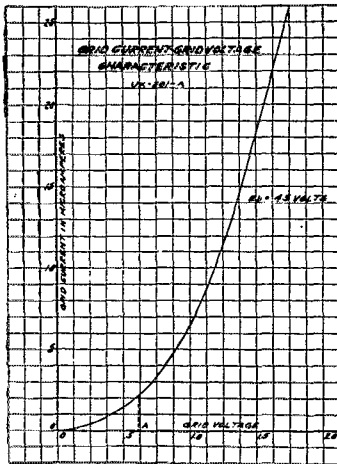
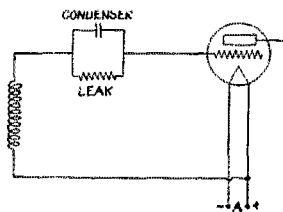

FIG. 1
FIG. 2
It is a well-known fact that if a curve of grid current for various grid voltages is taken for a common high-vacuum tube, such as the UX-201-A, a curve of the form shown in Fig. 1 is produced. It is this curved characteristic of the tube that makes the usual method of detection possible. Let us see how this characteristic is used. To do this it will be found convenient to forget about the plate and the plate circuit for the time being. For the purpose of explanation, let us take the grid characteristic curve of the UX-201-A as shown in Fig. 1 and also the circuit which is used with this tube for detection with the grid leak and condenser (Fig. 2). Under these conditions the grid will assume a potential which (referred to the "—" end of the filament) will be less than the five volts on the filament by an amount equal to the voltage drop through the grid leak. The current flowing to the
grid will be some value  $g_i$ . The resistance of the leak should be such that the grid potential corresponds to a point on the grid characteristic where the curvature is the greatest, such as the point (A) Fig. 1. When an unmodulated radio frequency wave is impressed on the grid under these conditions, there will be an increase in the direct current flowing to the grid. The reason for this, is that when the grid potential swings more positive on one half of the cycle there is an increase in grid current and when the grid swings more negative than the point a, on the next half of the cycle there will be a decrease in the grid current. On account of the curvature of the characteristic, the increase is greater than the decrease, and the result is an increase in the average current flowing to the grid. This increase in grid current would not of itself cause any change in the plate current of the tube, but since the increase in grid current must flow through the grid leak, the voltage drop across the grid leak is increased and therefore the potential of the grid with reference to the filament is decreased. This decrease in the grid potential causes a decrease in the plate current, which explains why detection, by the use of a grid leak and condenser, takes place with a decrease in plate current. It has been assumed in this discussion that all of the radio frequency